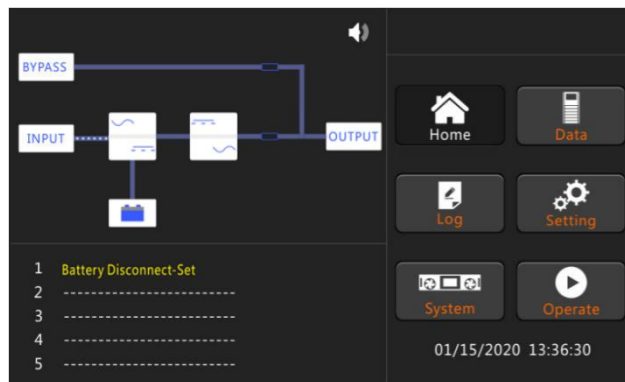

Fig.4-1 LCD of rectifier starting
2. Close the output circuit breaker (CB) and then close both input and bypass breakers CB and the system starts initializing.
3. The LCD in front of the UPS is lit up. The system enters the home page, as shown in Fig.4-1.
4. The LCD home interface shows that the system rectifier is working, the indicator flashes, as shown in Figure 4.1.